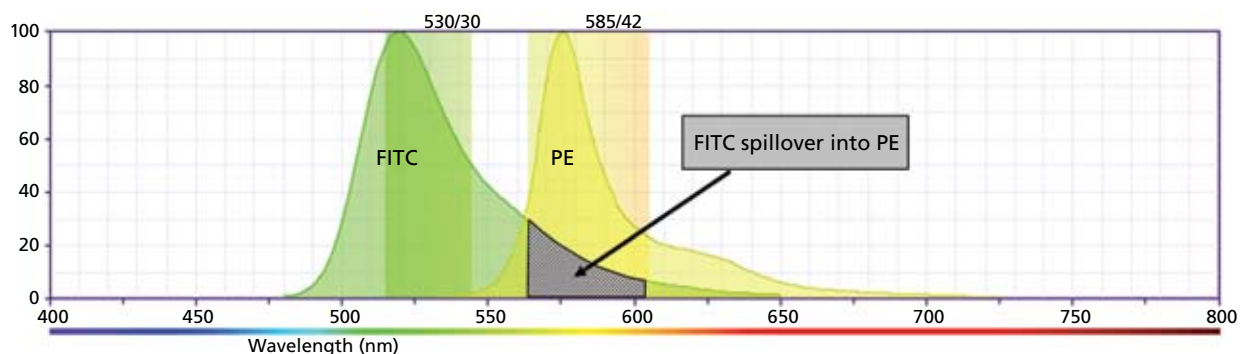

Figure 1. Example of FITC spillover into the PE channel.
- Spillover occurs whenever the fluorescence emission of one fluorochrome is detected in a detector designed to measure signal from another fluorochrome (Figure 1).